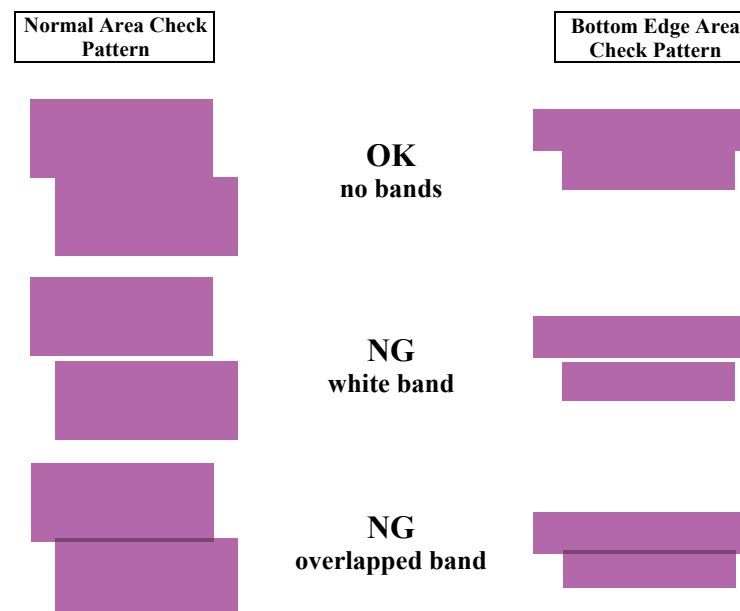

Figure 5-18. PFP Check Pattern Judging Standard
7. Referring to Fig. 5-18 check that there is no white or overlapped bands in all the check patterns. If any bands are found, carry out the steps below.